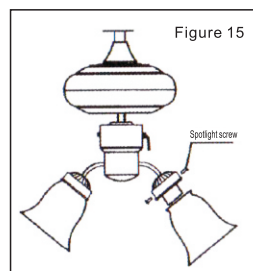
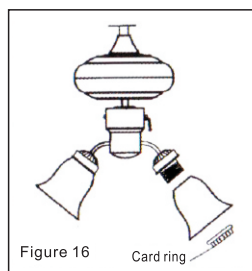

Figure 15
Figure 16
3. Loosen the screws by hand on the cup light, set into the glass shade lamp cup, hand-tighten the three screws on the side of the lamp cup to avoid the risk of falling lampshade, three screws on the lamp cup must be firmly screwed in place but not too tight, to avoid broken glass lampshades may be screwed (Fig. 15), as set in the shade card lock snap ring clamp glass (Figure 16).